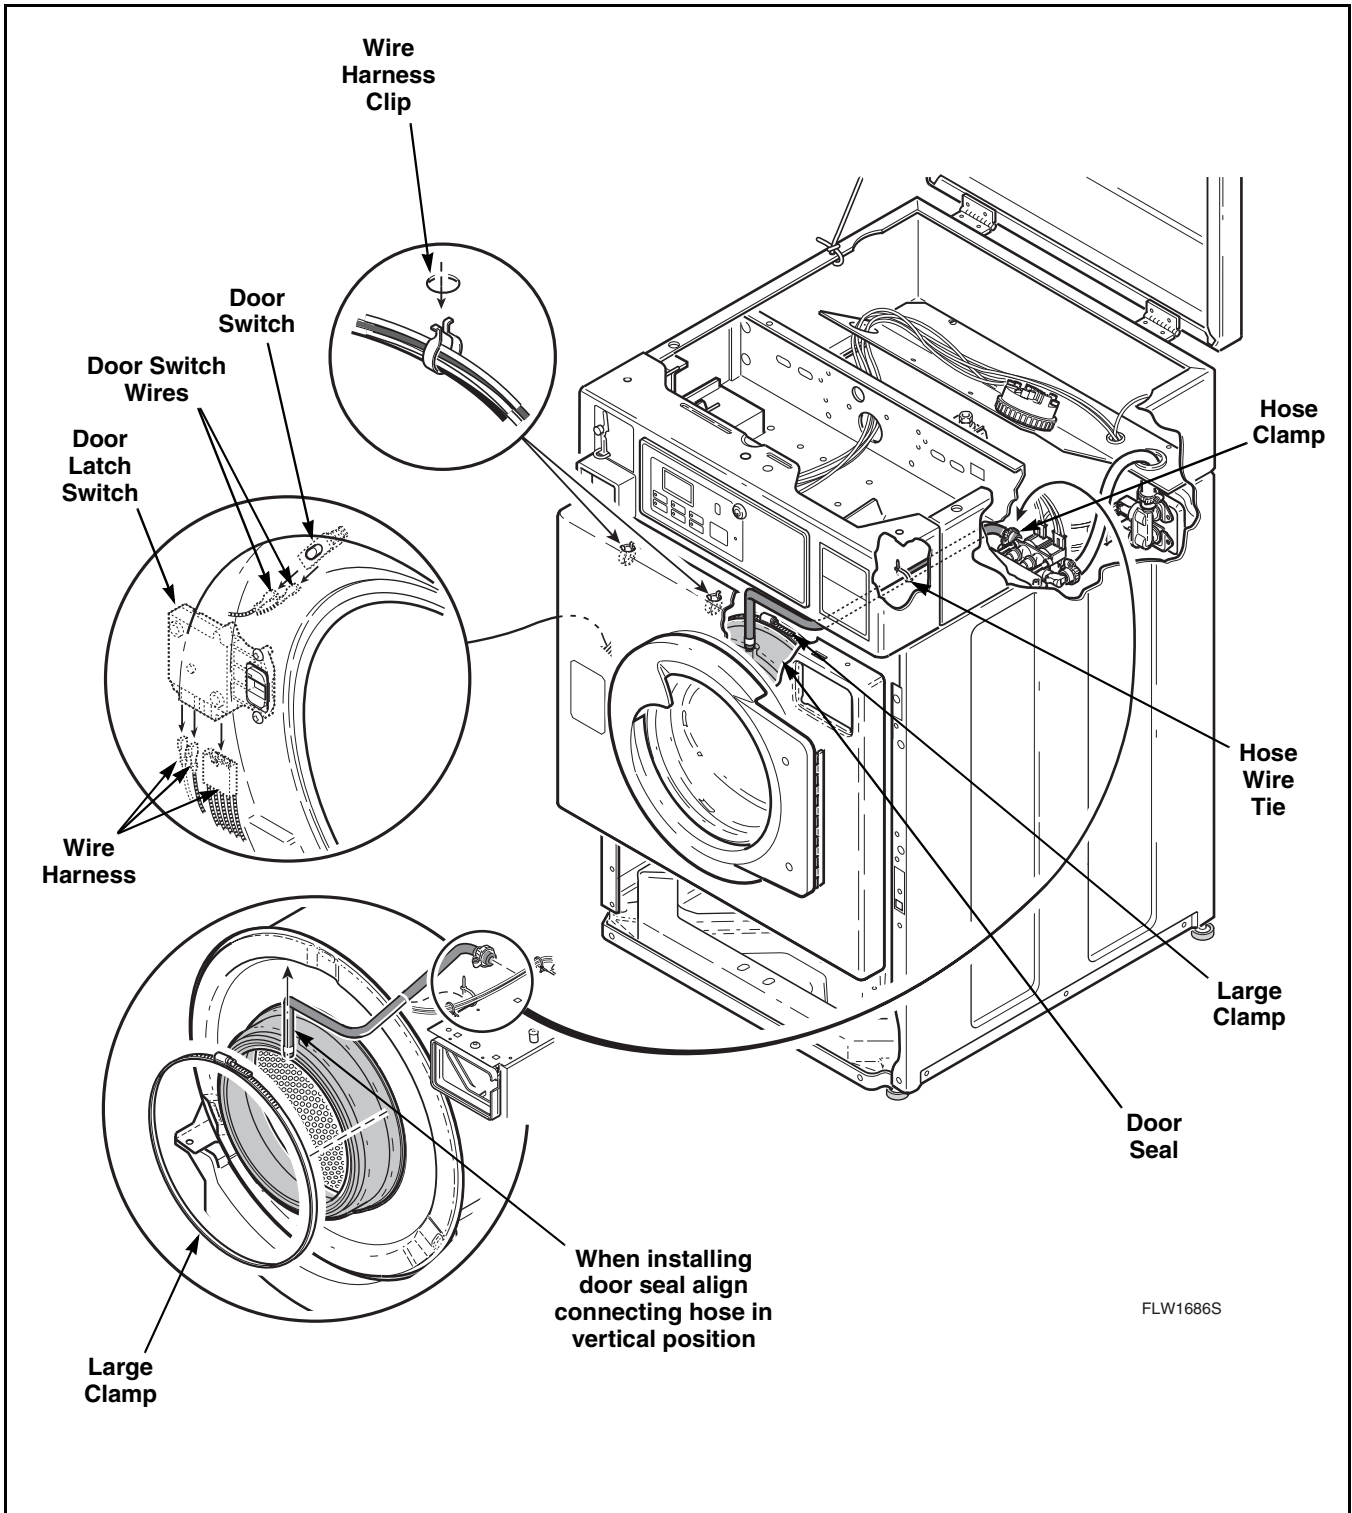

Figure 35
- j. Unplug wire harness from both the door latch switch and from the door switch. Refer to *Figure 35*. Remove clips holding wire harness and door seal hose along top flange of front panel and remove front panel.
NOTE: Door seal hose and wire harness must be reinstalled in the appropriate clips and holes along top flange of front panel. Refer to *Figure 35*.
- i. Unplug wire harness from both the door latch switch and from the door switch. Refer to *Figure 35*. Remove clips holding wire harness and door seal hose along top flange of front panel and remove front panel.
NOTE: The large wire clip holds both the wire harnesses and the door seal hose. Refer to *Figure 35*.
- l. Loosen hose clamp and remove dispenser valve-to-door seal hose connection at the dispenser. Refer to *Figure 35*.
- m. Loosen large clamp holding door seal to front of outer tub. Carefully pull seal off front lip of outer tub front panel and remove door seal and hose. Refer to *Figure 35*.
- f. Reach up between door seal and front panel. Refer to *Figure 35*. Press in on switch locking tabs and push switch out through front panel only far enough to allow removal of wires from switch terminals.
- f. While supporting door lock from the back (through door opening), remove two Phillips head screws holding door latch switch to front panel. Refer to *Figure 35*.
- g. Gently pull door lock out through door opening. Remove door lock only far enough to disconnect harness connector from door lock. Refer to *Figure 35*.